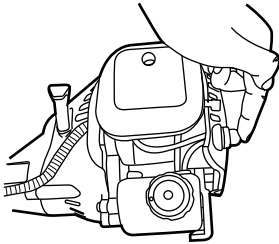

Fig. 20a
3. Press the primer (A4) 5-6 times until the fuel is visible. Move the choke lever (A3) to the  position. (See Fig. 20a, 20b)